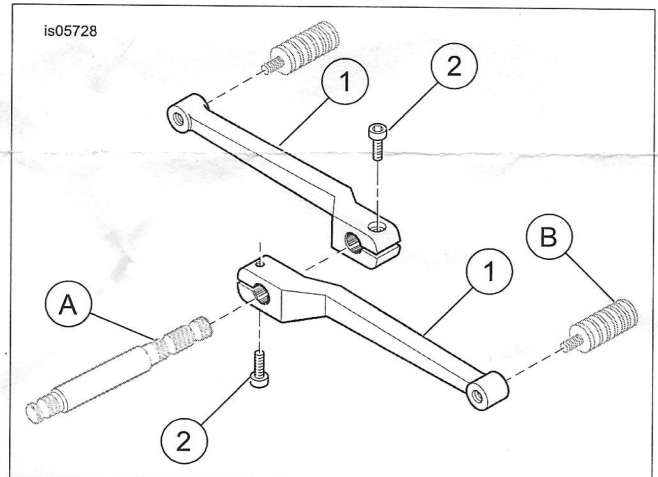

Figure 1. Service Parts: Shift Lever and Fastener Kit
See Figure 1 and Table 1.
3. See Figure 1. Position the toe shifter lever (1) with the counterbored hole on the underside of the lever. Adjust the lever position to the desired angle and slide it onto the splined shaft (A), aligning the screw hole axially with the innermost groove on the shaft.
4. Position the heel shifter lever (1) so the screw hole counterbore is on the top side of the lever. Adjust the lever position to the desired angle and slide it onto the splined shaft, aligning the screw hole axially with the outermost groove on the shaft.
5. Install the 5/16-18 socket head screw (2) into the counterbored hole. Tighten the screw to 18-22 ft-lbs (24-30 Nm).
6. Apply a few drops of Loctite 243 (blue) onto the shifter peg (B) threads and install the shifter peg onto the new shift lever.